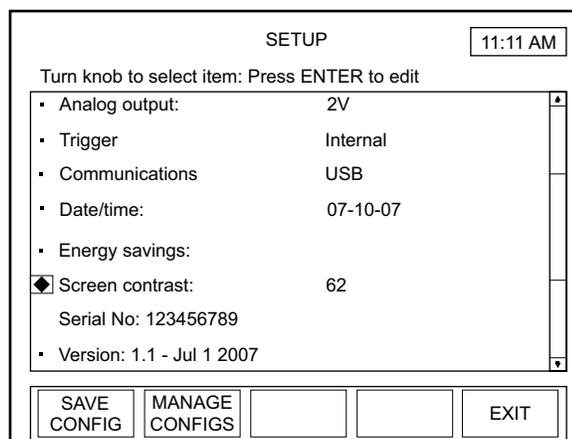

Figure 4-48. SETUP: Screen Contrast
1. On the main SETUP screen, turn the Selection knob to move the diamond indicator to Screen Contrast (Figure 4-48).